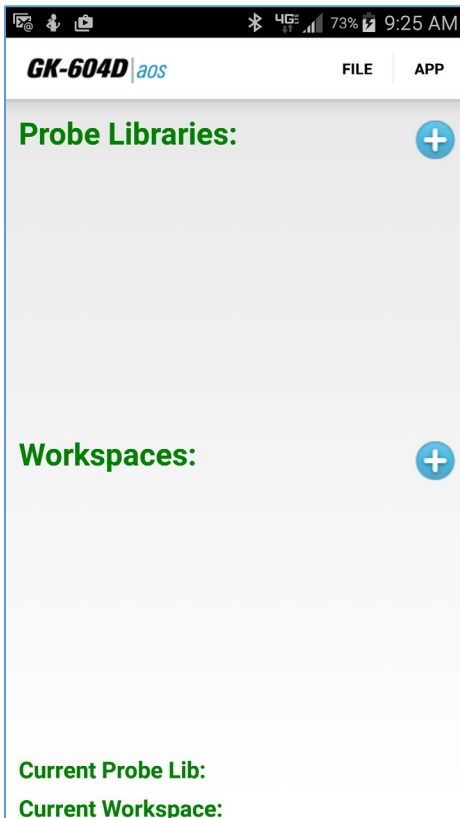
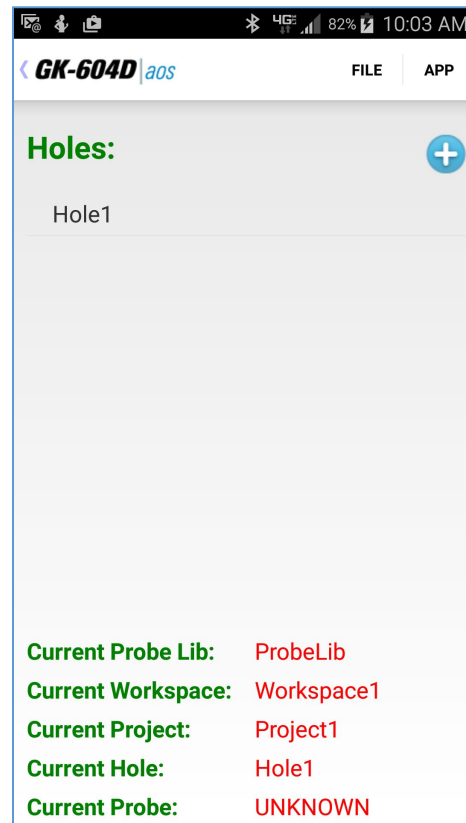

Figure 9 - Initial Screen
Figure 10 - Main Screen
- 3) If the Initial Screen (Figure 9) is displayed instead of the Main Screen (Figure 10), please refer to Section 2.4 (Starting the GK-604D|aos app for the first time) before continuing to Step 4.
- 5) At this point the “Main” screen should be displayed (Figure 10), a “Project” and “Hole” should have been created and/or selected.